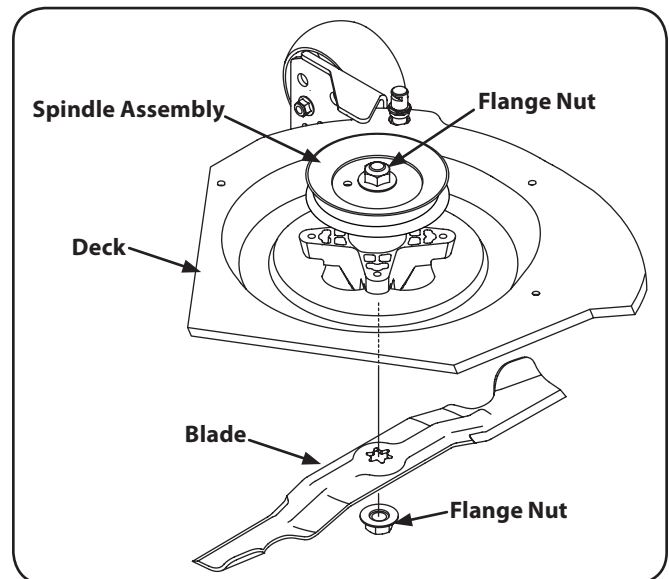

Figure 7-13
- Use a $\frac{15}{16}$ " wrench to hold the flange nut on top of the spindle assembly and using another $\frac{15}{16}$ " wrench on the flange nut securing the blade the blade, remove the blade. See Figure 7-13.